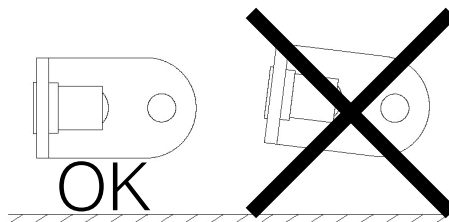

Fig. 73
- Fasten the plaque to the wall by means of the AF screw provided in the KIT, screwing it into the plug previously introduced into the wall. Pay particular attention to the alignment of the plaque, the bracket must be perfectly perpendicular to the floor (**Fig. 73**)